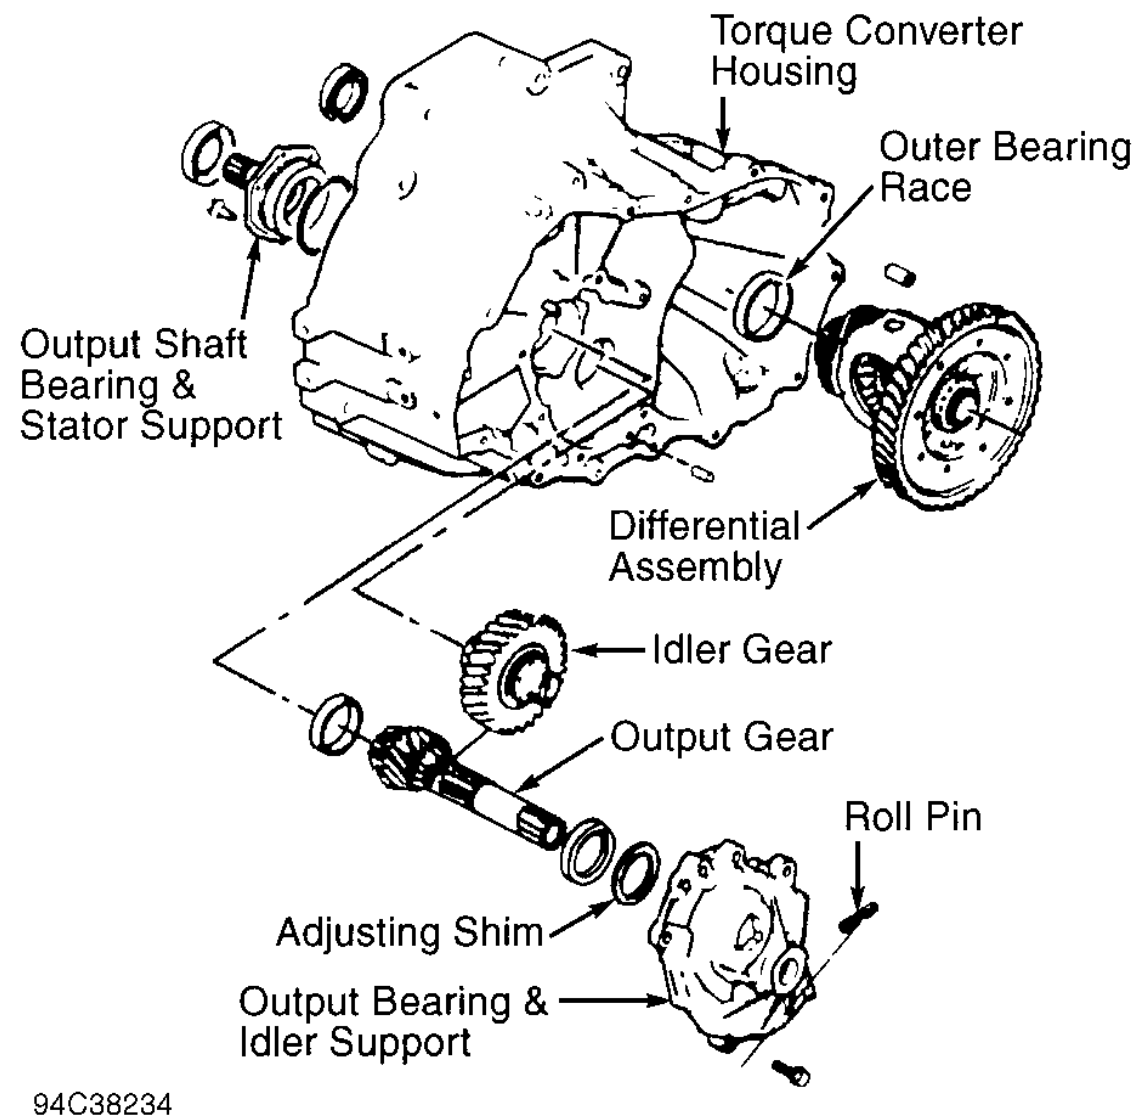

Fig. 11: Torque Converter Housing Components
9. Remove output bearing and idler support assembly by lightly tapping on idler shaft with a soft-faced hammer. Drive out idler gear roll pin and remove idler gear from output bearing and idler support. See Fig. 11 . Remove output gear assembly, press out bearing race from output bearing and idler support and save adjusting shim for reassembly.